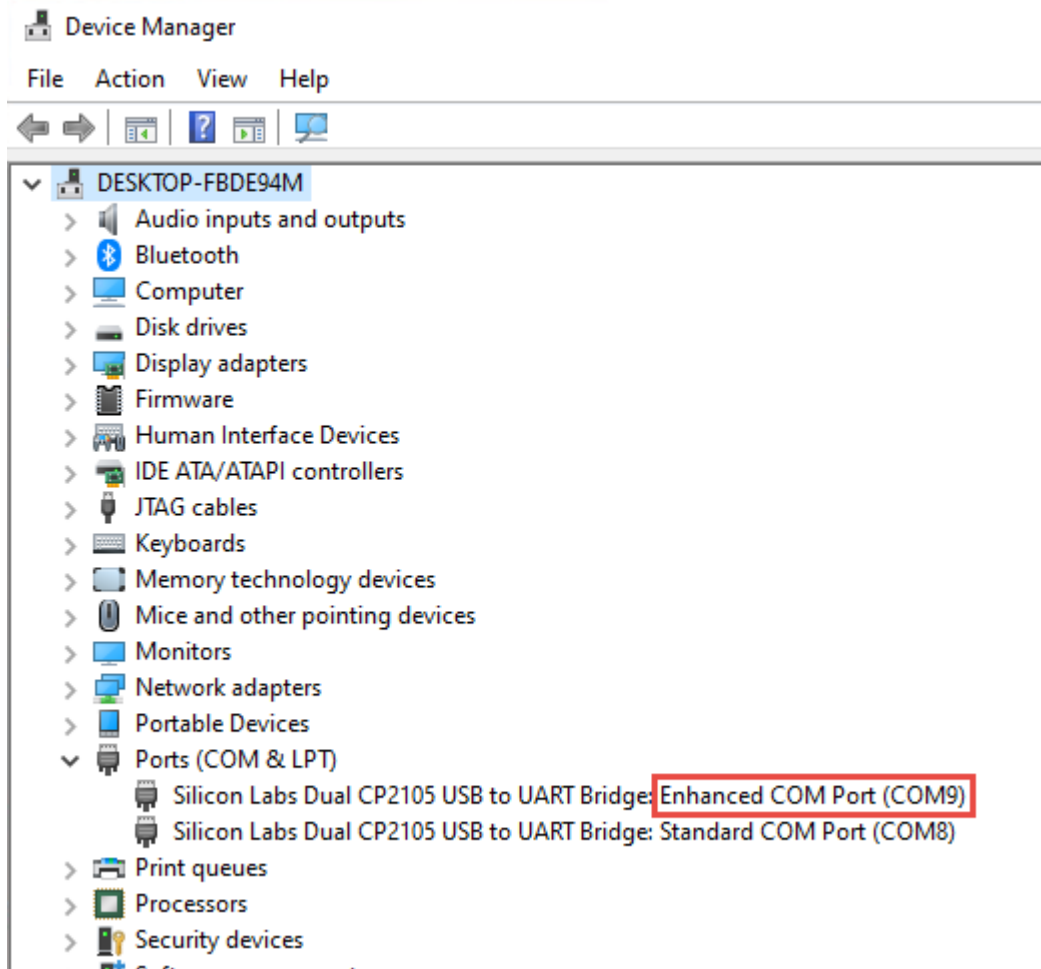

Figure 1-7 Device Manager
1. Open the “Device Manager” on your windows and check the “Port(COM&LPT)” tab. User may find the Silcon UART device CP2105 on the list. Find the COM number of “**Enhanced COM port**”. It represents the HPS UART Port. See **Figure 1-7**, the COM number of this Host is COM9. *Note that the “**COM9**” on the Serial Line column needs to be modified according to the actual com port on the user's computer.*